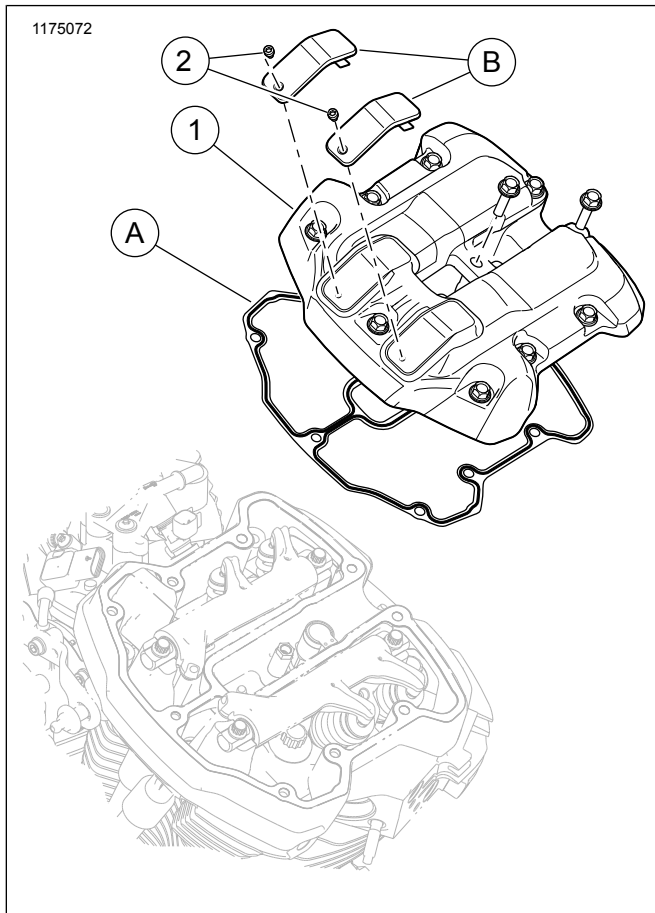
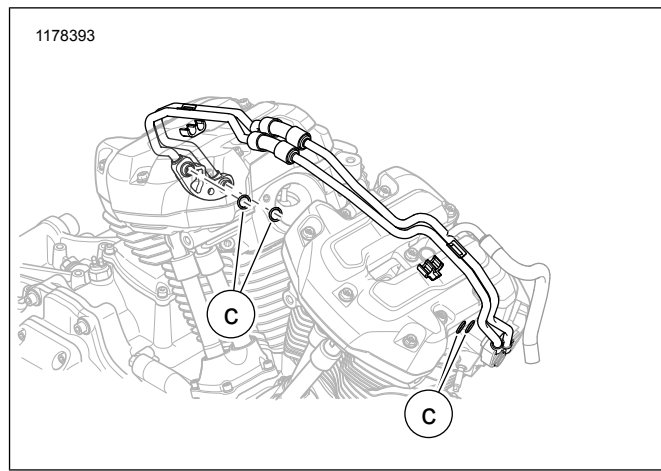

Figure 2. Service Parts: Rocker Box Cover Kit
Figure 3. Service Parts: O-ring Location
See Figure 2, Figure 3 and Table 1
2. See Figure 3. Install upper cooling lines with **new** O-rings (C).